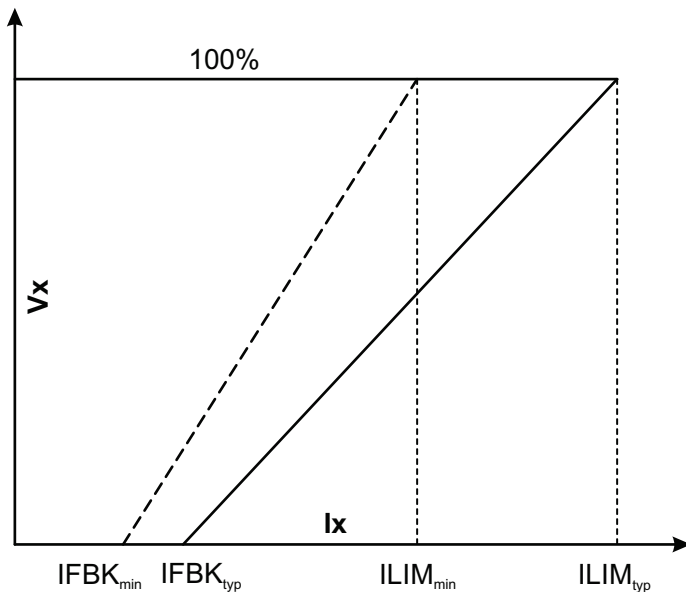

Figure 10: Typical LDO Foldback Characteristics
2. Current limit (ILIM) with foldback short-circuit protection (IFBK); see Figure 10